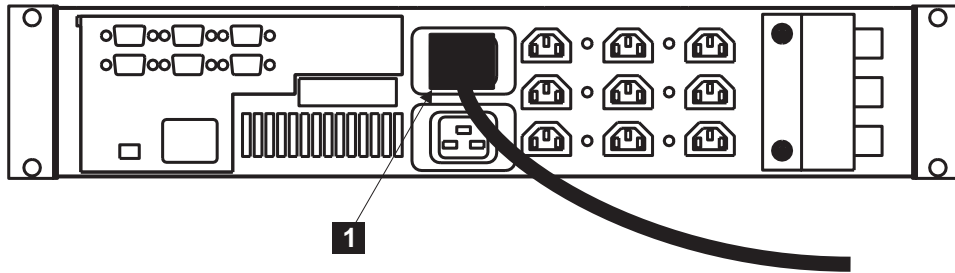

Figure 111. Installing the 2145 uninterruptible power supply power cable
9. At the back of the 2145 uninterruptible power supply, plug the 2145 uninterruptible power supply main power cable (**1** in Figure 111 on page 128) into the power socket.